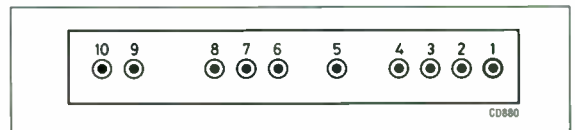

Fig 9.3. Side view of the connections to the DBS tuner
Fig 9.2 shows the pin layout from the 'top' (unscreened) side of the tuner and Fig 9.3 shows them from the side, with the tuner seen from the side. Pin 1 is the signal (RF) input pin. The sensitivity and noise figure of the unit is typical of all satellite tuner modules which are always used following a high-gain, low-noise first converter (LNB, see elsewhere). Thus, a preamplifier will be needed, preferably with a gain of not less than 13dB, together with a noise figure of 1.5dB or better. A suitable, high-performance preamplifier is described later, together with other, general-purpose wide-band amplifiers.